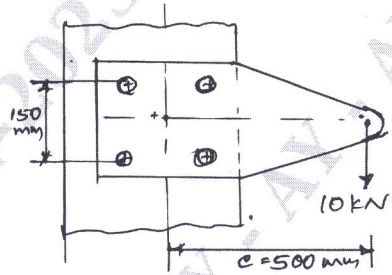

Fig.Q9(b)
- b. The structure as shown in Fig.Q9(b) is subjected to eccentric load of 10 kN with eccentricity of 500 mm. All bolts are identical and having stress in tension of 160 MPa. Determine the size of bolt.